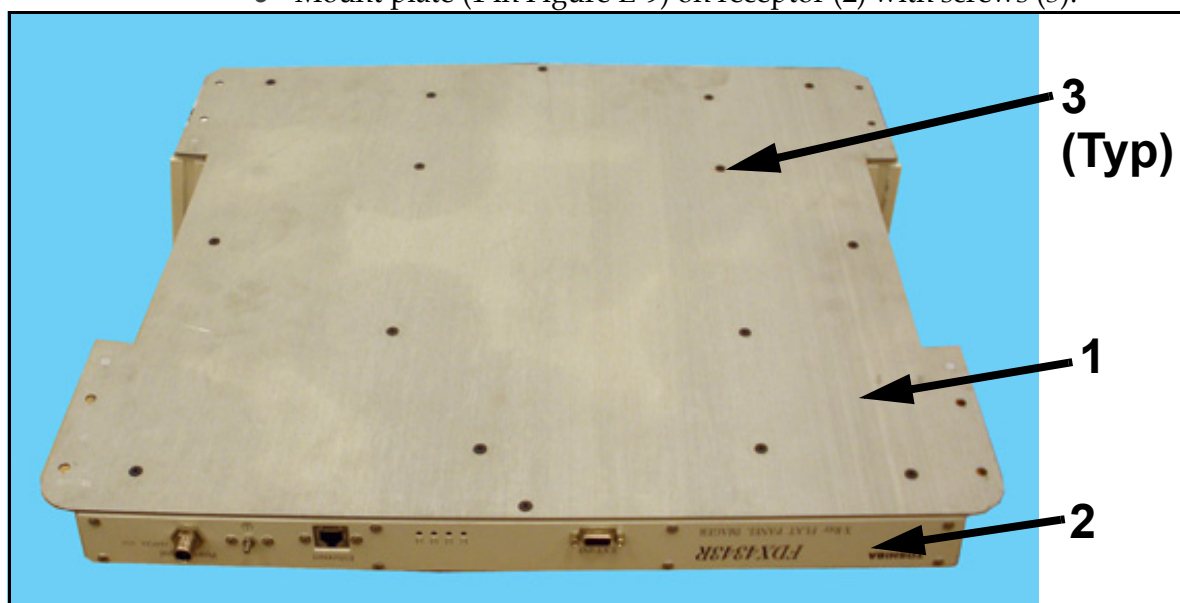

Figure E-9. Mounting Handles on Receptor
9 Mount plate (1 in Figure E-9) on receptor (2) with screws (3).